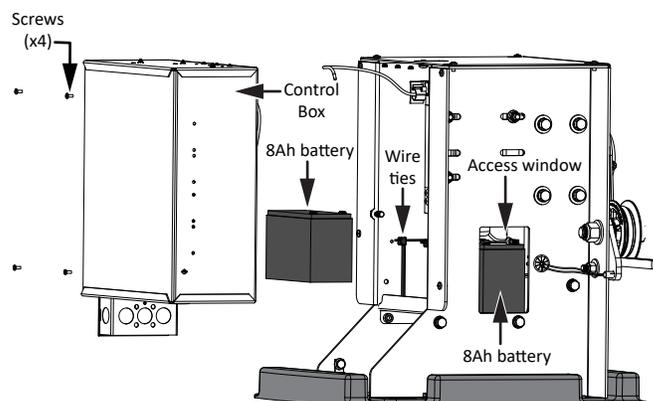

Figure 30. Batteries Access
3. To access the 8Ah batteries and disconnect its wires, cut the two black wire ties and slide the 8Ah batteries through the access window. Another option is to remove the four screws that hold the control box to the chassis. See Figure 30.